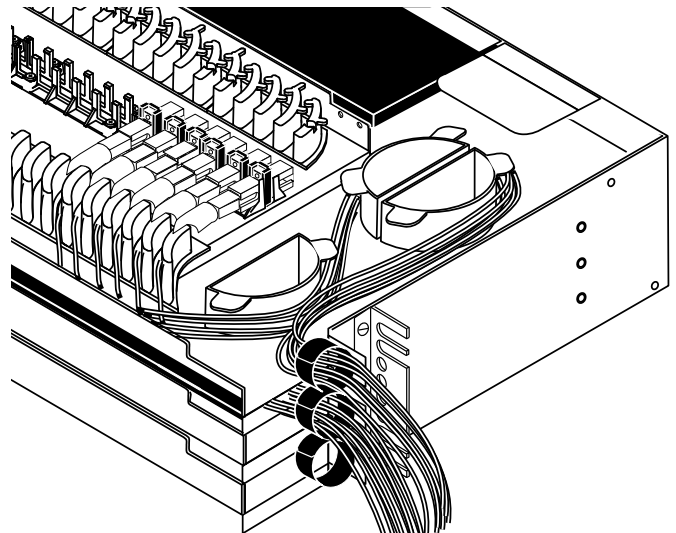

Figure 18
- Step 2:** Route jumpers around routing guides on the drawer assembly as shown in Figure 18.